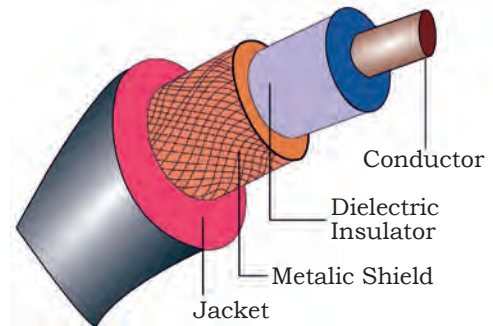

Fig. 2.10: Coaxial cable
- It is made up of two conductors that share a common axis. It consists of a hollow outer cylindrical conductor that surrounds a single inner wire conductor shown in Fig. 2.10.